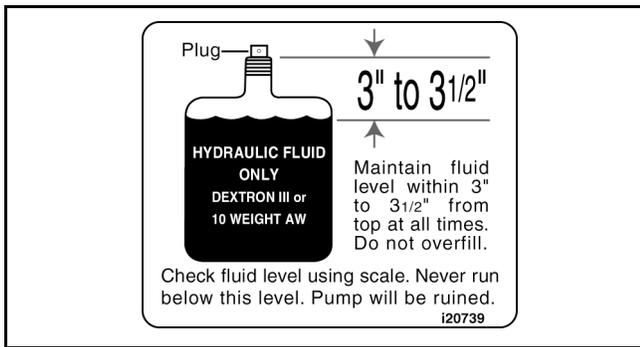

Figure 11
- Fill the reservoir tank to the within 3" to 3 1/2" from the top of fill tube with Dexron III automatic transmission fluid or 10W AW hydraulic fluid. See Figure 11.